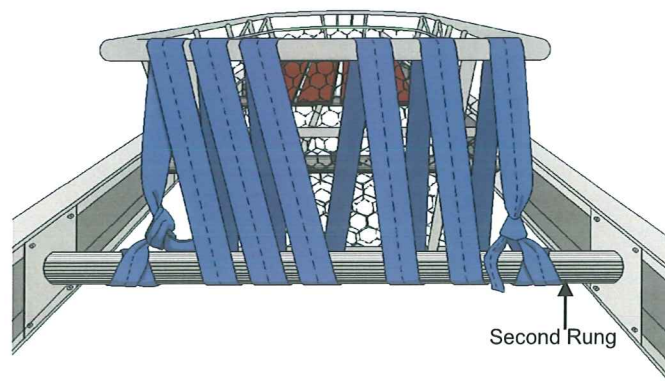

Figure 15-5: Tie a Round Turn and Two Half Hitches
3. Tie a round turn and two half hitches to this rung. (Figure 15-5)
2. Tie a round turn and two half hitches to the rung. (Figure 15-5)